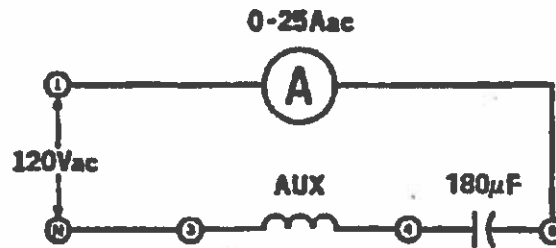

Figure 34-2.
3. a. Disconnect the leads from the main winding and connect them to the auxiliary winding and capacitor, as shown in Figure 34-2.